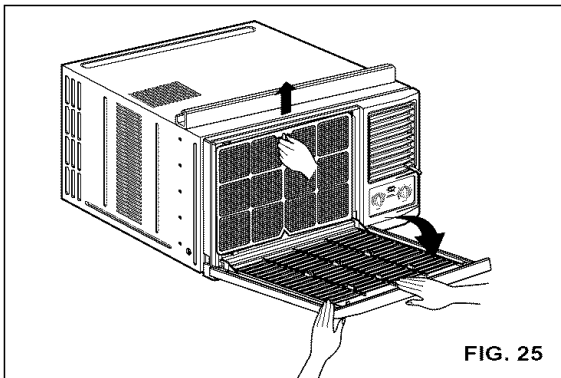

FIG. 25
- Pull the inlet grille forward, grasping both tabs, then pull out the air filter. (FIG. 25)